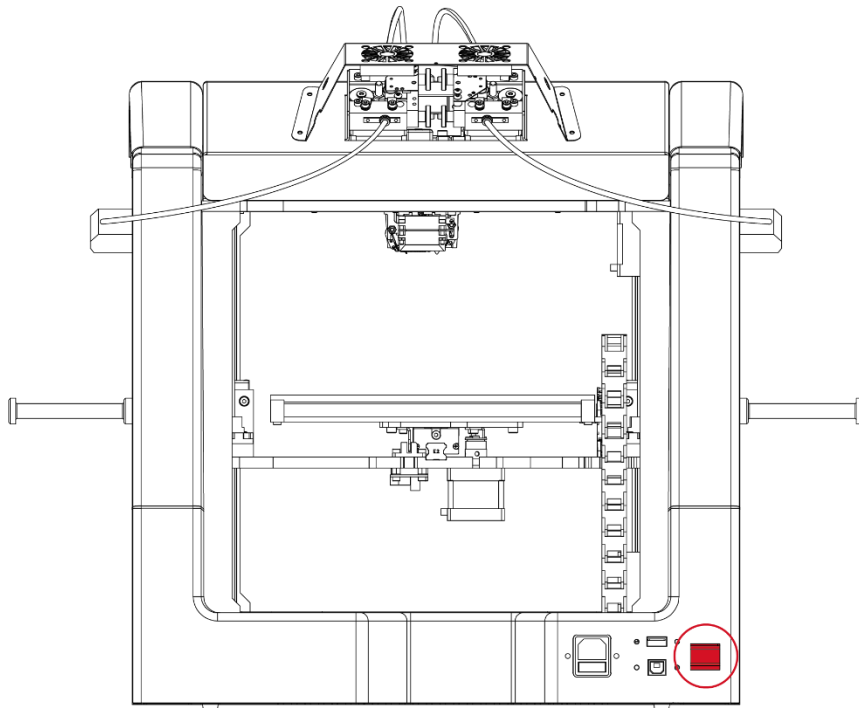

Fig. 15 . Switch of 3DGence DOUBLE P255 printer - rear view
The printer's main switch is located at the back of the printer (fig. 15). To start the printer, set the switch to the upper position (ON).